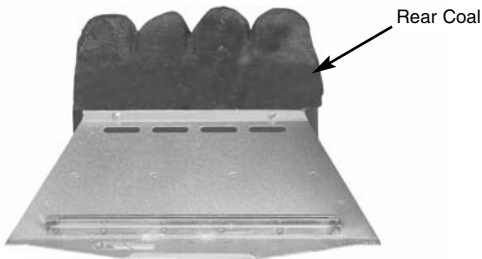

Fig. 51
1. Place the rear coal on the rear coal retainer ledge in a central position (Fig. 51).